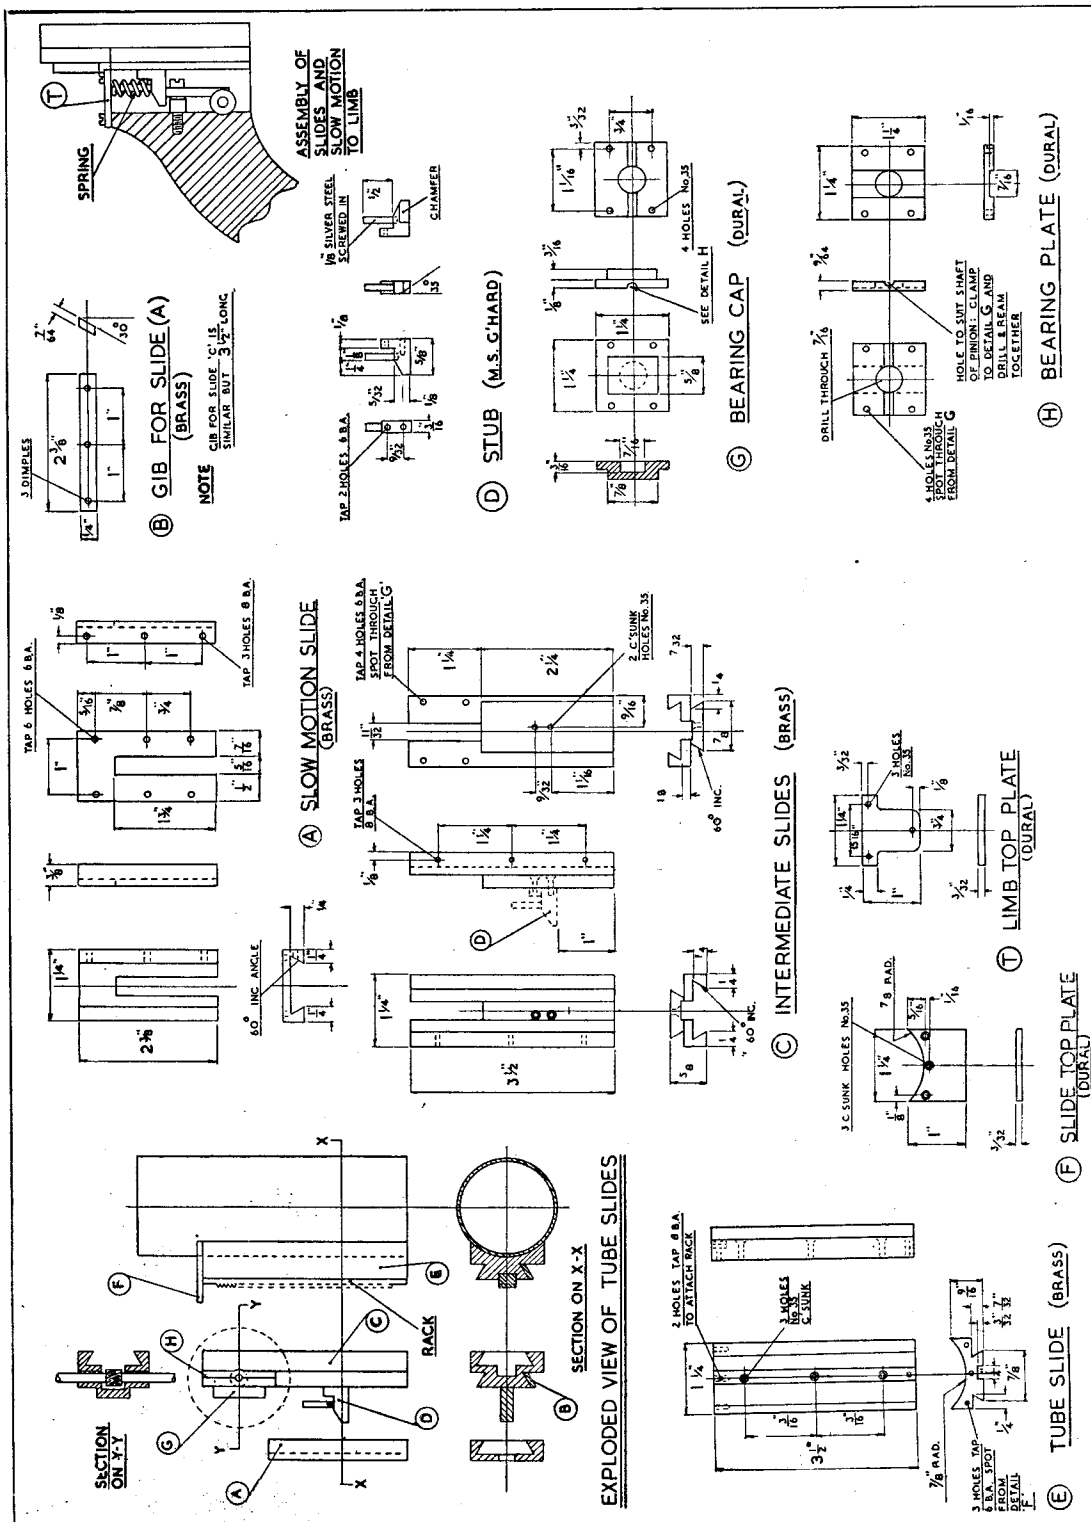

FIG. 7 SLIDES FOR BODY TUBE
The Slow-motion Slide (A, Fig. 7)
Intermediate Slides (C, Fig. 7)
Tube Slide (E, Fig. 7)
Bearing Cap (G) and Bearing Plate (H, Fig. 7)